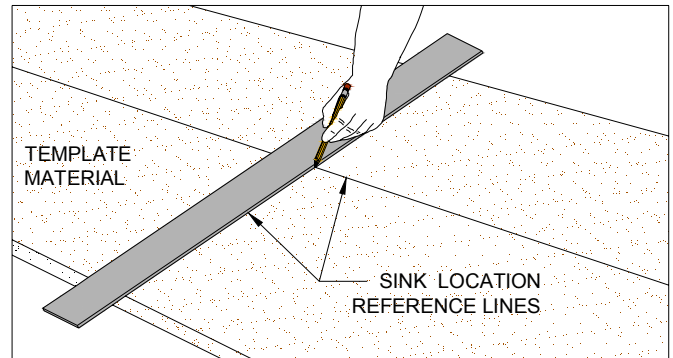

Figure 33A
- ☐ Include both vertical & horizontal alignment marks. (FIG. 33A)